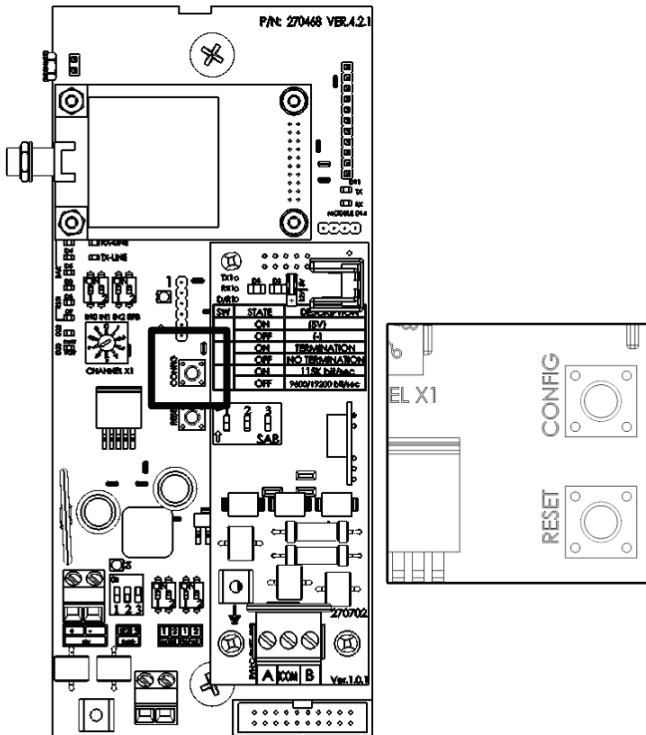

Figure 21: Configuration Button
4. Press **Config** for five seconds (Figure 21). This generates a test signal. The green LED begins to blink.